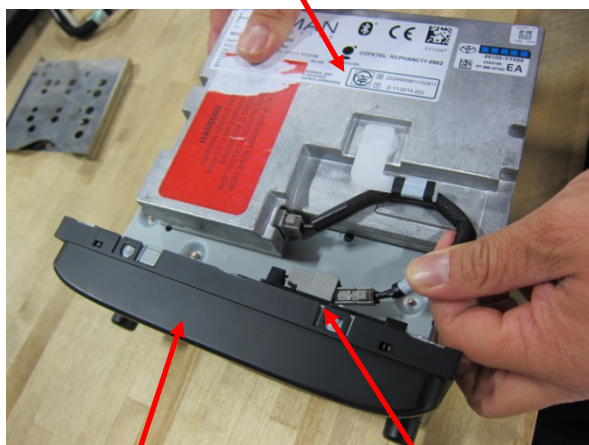

Fig. 6-1 DA Radio BT wire harness connector
- (a) Lay the Display Audio (DA) radio on a flat surface with the bottom facing upward (Fig. 6-1).
- (b) Place the extension module on the bottom of the DA radio as shown (Fig. 6-1).
- (c) Remove the break-away tape from the Bluetooth cable harness. Plug the Bluetooth antenna wire harness into the connector on the DA radio (Fig. 6-1). Make sure both ends of the harness are securely seated between the extension module and the DA radio.